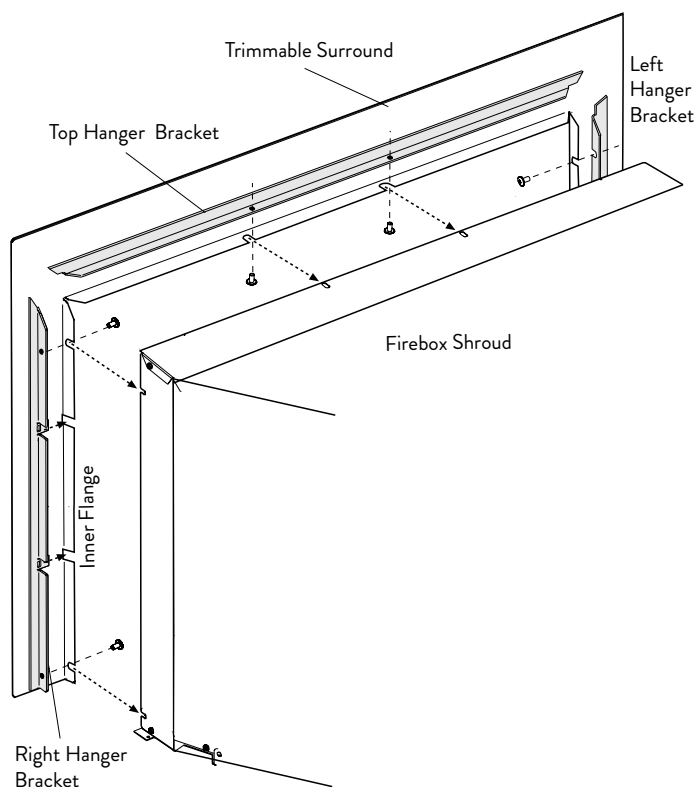

Figure 65.
2. Very loosely attach the three Hidden Surround Hanger Brackets to the insert firebox using the ten, M6 x 8 phillips head screws as shown in Fig. 65.